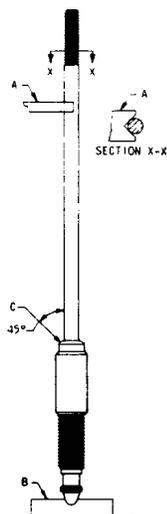

FIGURE 22
It is important that the spindle be kept very straight in order to transmit the spring force to the disc without lateral binding. Overgagging is one of the common causes of bent spindles. A method to check the essential working surfaces of the spindle is illustrated in Figure 22 (below). This may be performed either with or without the disc collar and lift stop on the spindle.
Using Figure 22 (above) as a reference, clamp a V block (A) made of wood, fiber or other suitable material onto the platform railing. Imbed the ball end of the spindle in a piece of soft wood (B) and place the top of the spindle, below the threads, in the V block (A). Clamp a dial indicator onto the railing and locate at point (C). The total indicator reading should not exceed .007 in. (.177 mm) when the spindle is rotated. If it does, the spindle must be straightened prior to reuse. To straighten the spindle, place the unthreaded portion of the small and large end in padded V blocks, with the point of maximum indicator readout upward, and then apply a downward force with a padded press or jack as required, until the spindle is within the specifications.